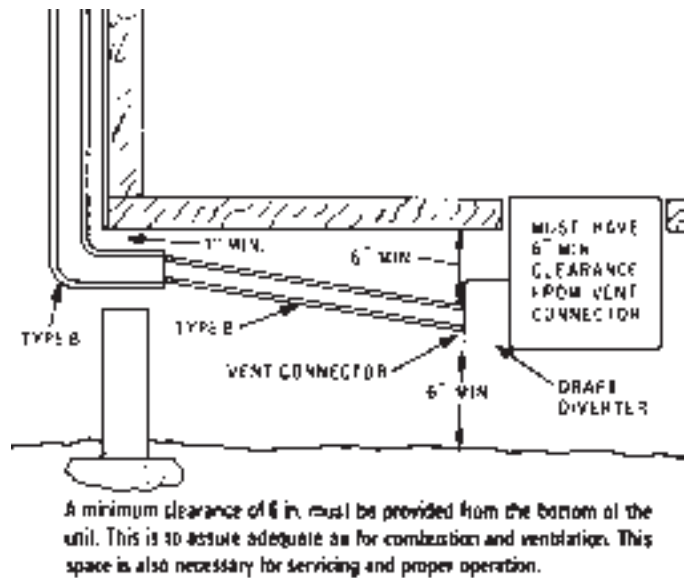

Figure 4
4. For flue pipe running through walls, roof and within one (1) inch of combustible construction, use B-1 (one inch clearance to combustibles) vent pipe. **See Figure 4.** Any combustible material that is within 6 inches of the vent connection or the draft diverter must be shielded with a non-combustible material.